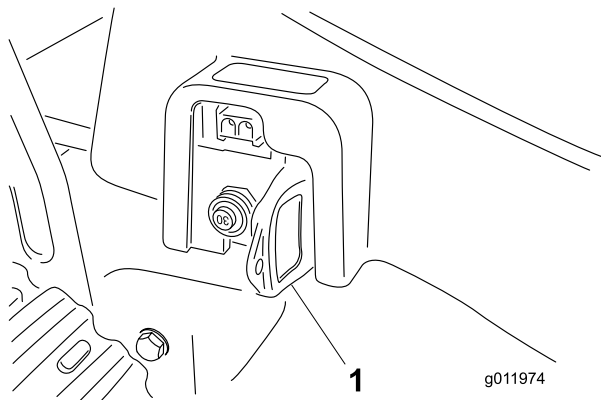

Figure 3
1. If the key is in the plug receptacle, remove it (Figure 3).
1. Remove the key from the plug receptacle (Figure 3).